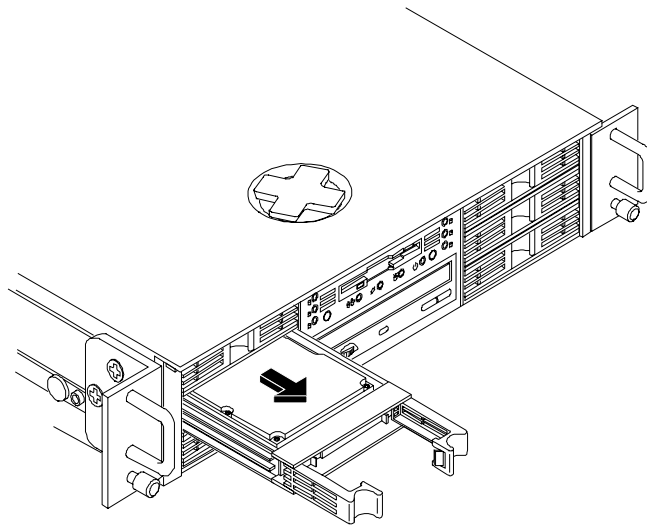

Figure 3-6. Removing a SCSI Drive
- a. Using both hands, grasp the ejector arms and firmly pull the drive out about an inch to disengage the connection on the backplane. See Figure 3-6.